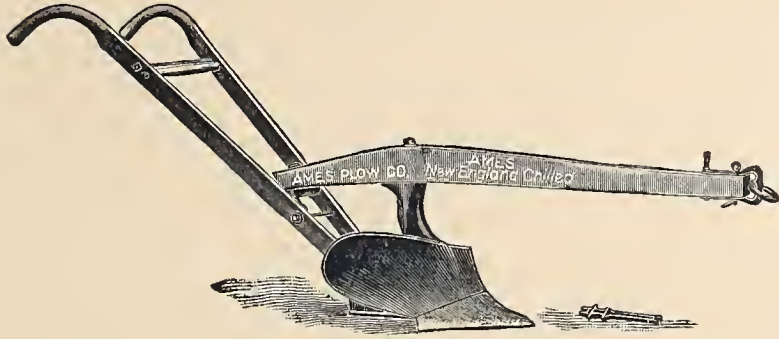

Fig. B 241.—New England Chilled Plow, No. A-10.
**A-10, One Horse**, for garden and field use, is represented by *Fig. B 241*, and is suitable for stubble-furrows three to five inches deep, by eight to ten inches wide.
**Trimming.**—The **A-10** is usually sold as shown in *Fig. B 241*. The **A-20** and **A-40** are used with wheel and Jointer or Cutter. The Jointer is shown in position in *Fig. B 240*, and the Cutter, which can be substituted for the Jointer when desired, is shown detached.